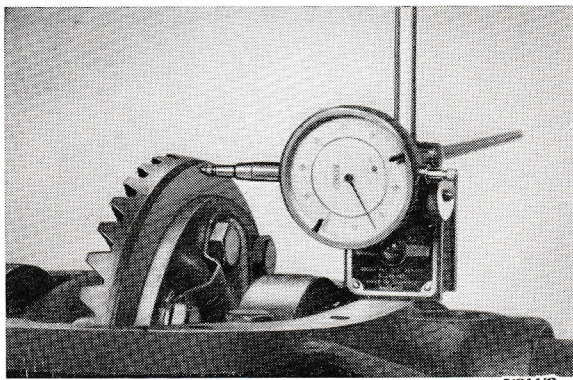

Fig. 39. Measuring the crown wheel run-out.
12. Fit the caps (32, 41) with their bolts and tighten the bolts. Fit a dial indicator against the back side of the ring gear as shown in Fig. 39. Rotate the crown wheel and check the run-out. This may not exceed 0.08 mm (0.003").